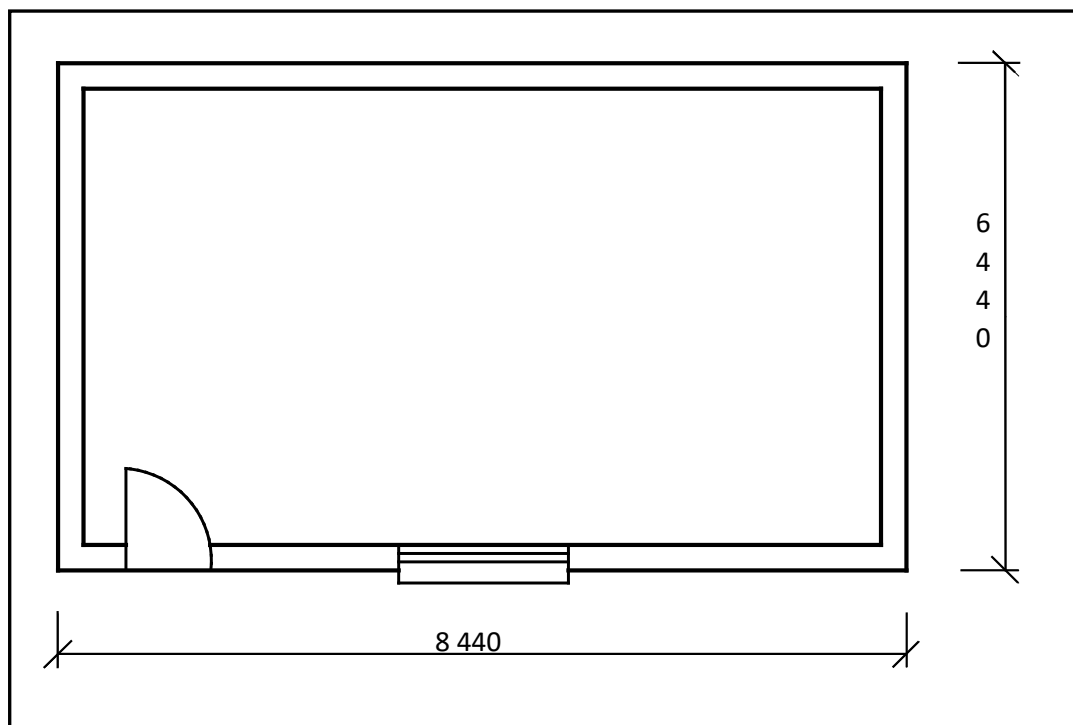

FIGURE 1.6
a. A foundation with a length of 28 m, width of 450 mm and a thickness of 150 mm need to be cast with concrete. Calculate the volume of concrete required for the foundation in m³. (4)
1.6 **FIGURE 1.6** below shows the floor plan of a single-room building.